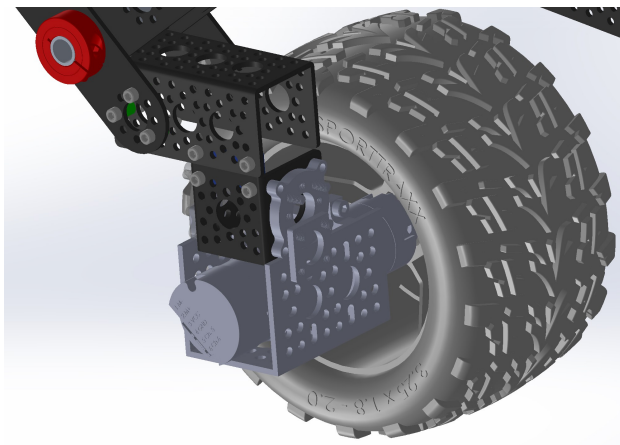

Figure 2: Mounting the middle wheel
1. **Mounting the Middle Wheel:** Mount one base wheel (not the corner wheels) to the lowest arm of each of the two rocker bogie subassemblies using a 1.5 inch channel **S1** and channel connectors **S6**. See Figures 2 and 3. Note that you should mirror the wheels so that they are both on the "outside" of the rocker bogie subassemblies.